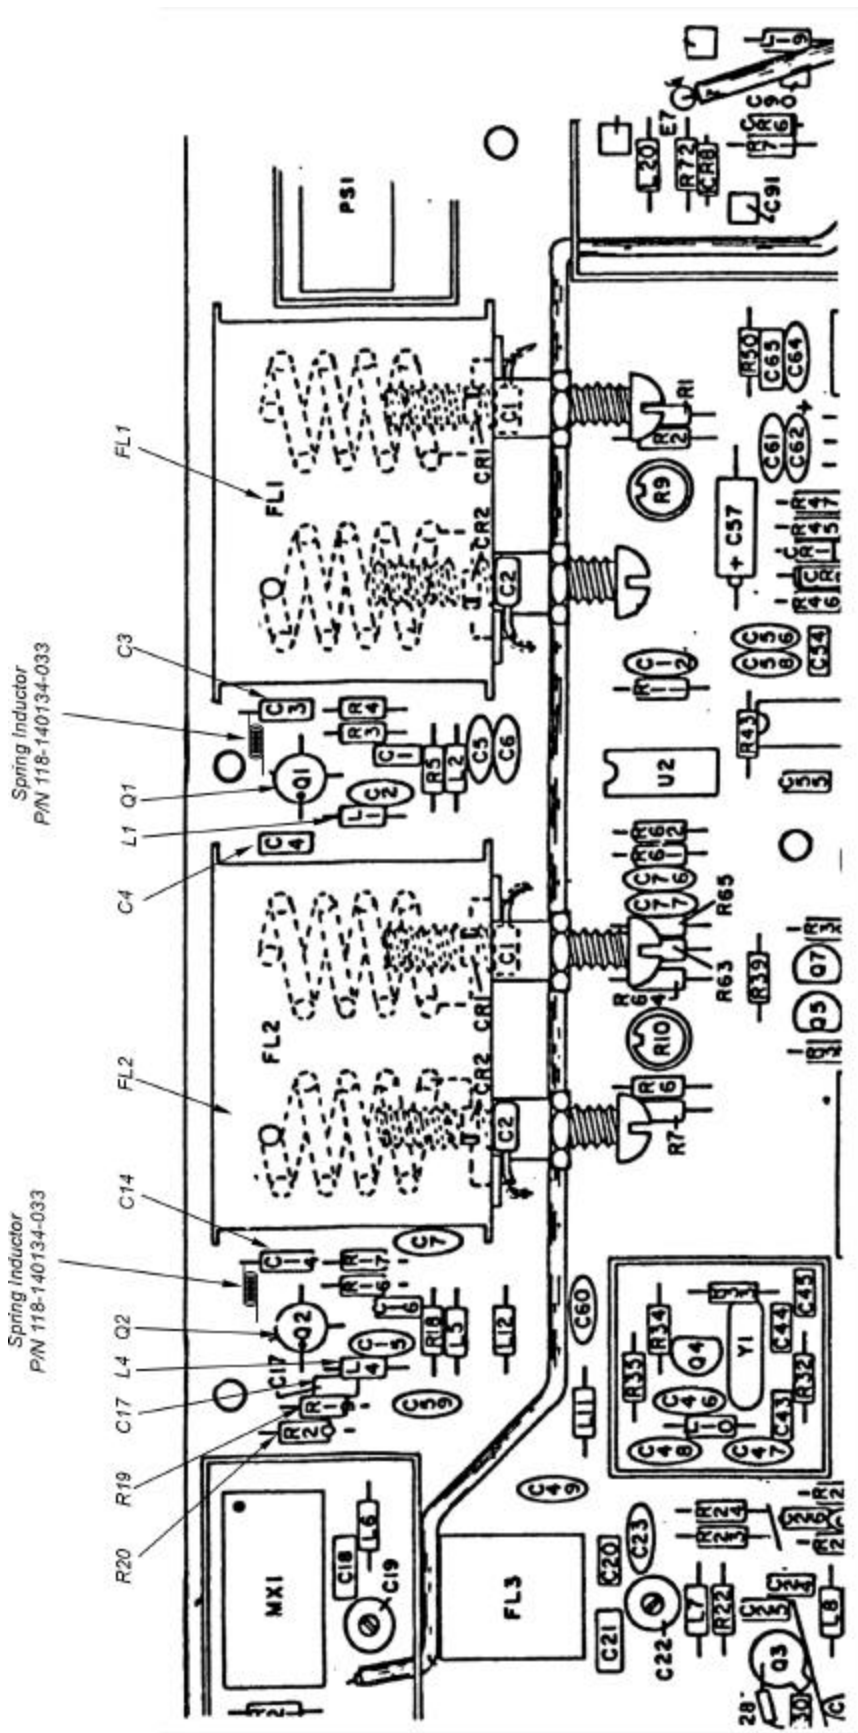

Figure 1
1. Replace Resonators FL1 and FL2 P/N 300-2251-001 Rev. E with Resonators P/N 300-2251-002 Rev G (refer to Figure 1).
3. Remove Resistors R19 and R20 (refer to Figure 1).
4. Replace Transistors Q1 and Q2 with P/N 106-040856-01 (refer to Figure 1). Orient Q1 and Q2 as shown in Figure 3. Remove conformal coating and solder resist as required to solder additional pin to ground plane.
5. Replace Capacitors C4 and C17 with P/N 209-1100-106 (refer to Figure 1).
6. Replace Chokes L1 and L4 with Resistors P/N 230-040008-101 (refer to Figure 1). Solder Spring Inductors P/N 118-140134-033 to legs of resistors, positioned approximately as shown (refer to Figure 4).
7. Solder one lead of Spring Inductor P/N 118-140134-033 to Capacitor C14 and the other lead to ground (refer to Figure 1). Remove conformal coating and solder resist as required to solder to ground
8. Solder one lead of Spring Inductor P/N 118-140134-033 to Capacitor C3 and the other lead to ground (refer to Figure 1). Remove conformal coating and solder resist as required to solder to ground